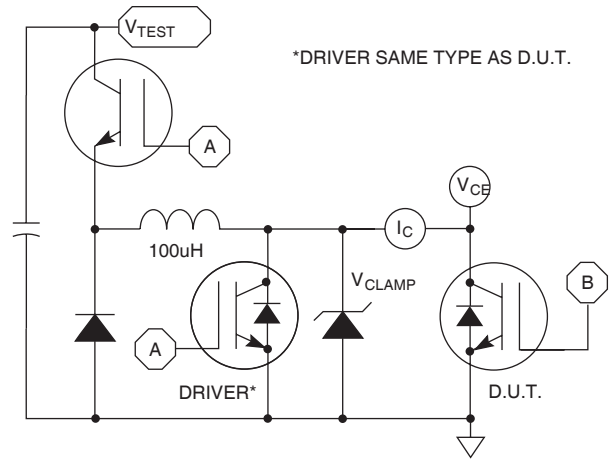

Figure 24, EON1 Test Circuit
① Repetitive Rating: Pulse width limited by maximum junction temperature.
② For Combi devices,  $I_{ces}$  includes both IGBT and FRED leakages
③ See MIL-STD-750 Method 3471.
④  $E_{on1}$  is the clamped inductive turn-on-energy of the IGBT only, without the effect of a commutating diode reverse recovery current adding to the IGBT turn-on loss. (See Figure 24.)